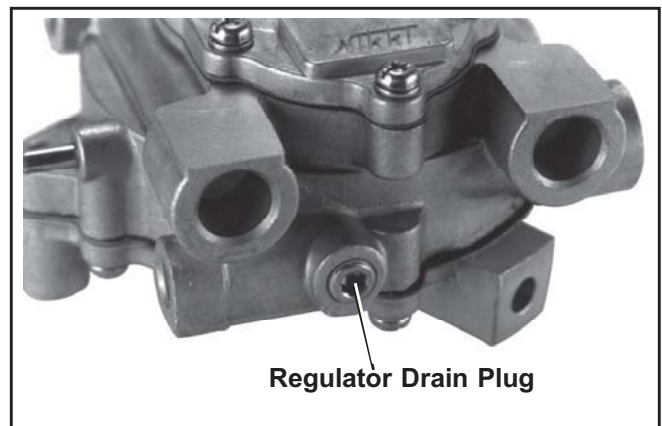

Figure 12.
3. Remove the 1/8" pipe plug from the bottom of regulator and drain any accumulated deposits. See Figure 12.